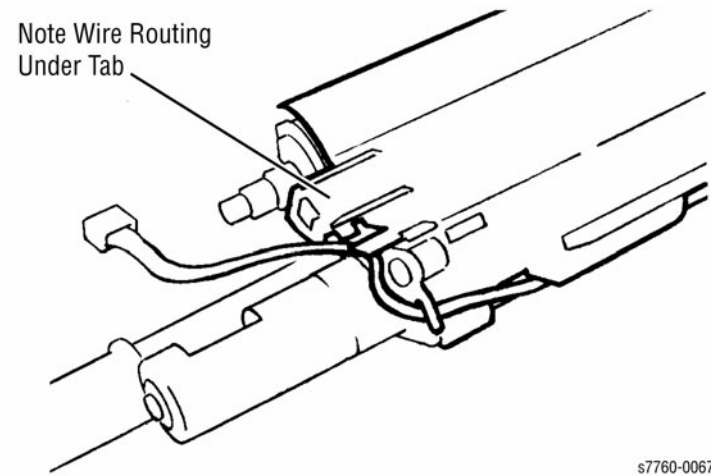

Figure 1 Observing position of Harness
3. Removing the Developer. (Figure 1).